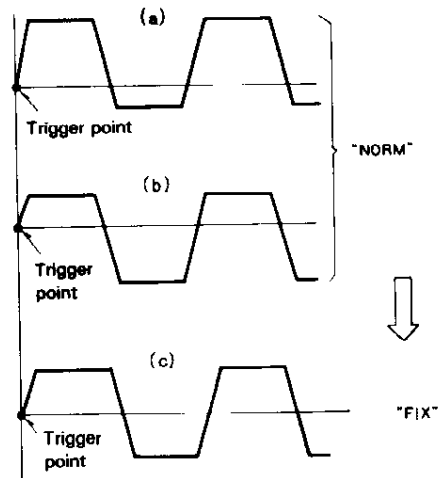

Fig. 9
When the TRIG MDDE ②⑦ is set to FIX, triggering is always effected in the center of the waveform, eliminating the need for adjusting the triggering level. As shown in Fig. 9-(a) or (b), when the TRIG MDDE is set to NDRM and the triggering level is adjusted to either side of the signal, the trigger point is deviated as the input signal becomes small which, in turn, stops the sweep operation. By setting the TRIG MDDE to FIX, the triggering level is automatically adjusted to the approximate center of the waveform and the signal is synchronized regardless of the position of LEVEL control as shown in Fig. 9-(c).